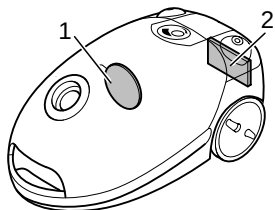

Fig.20
- **Protective motor filter:** behind the dust bag (Fig. 20/1).